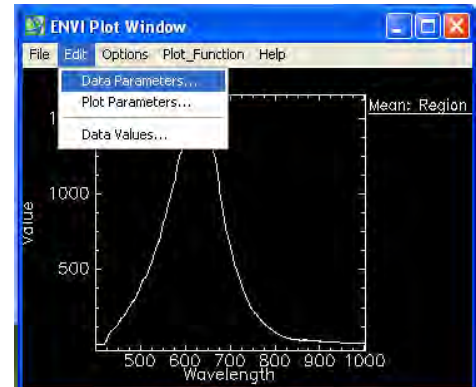

Figure 44. ENVI Plot Window
- f. A new ENVI Plot Window opens (see Figure 44)